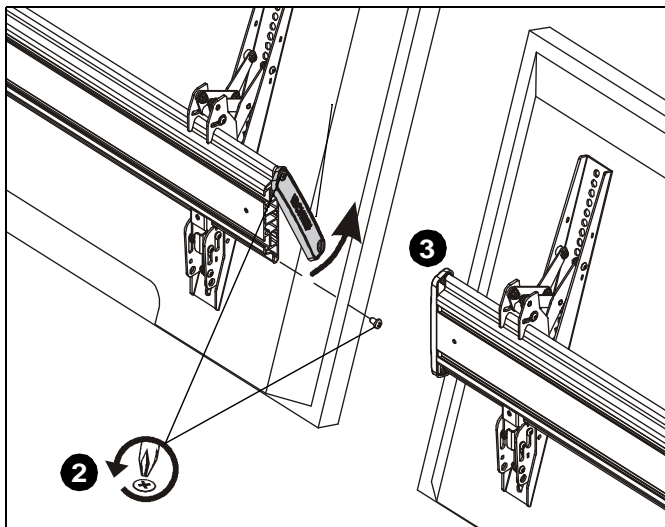

Figure 1
2. Rotate end cap on one end of rail by loosening one screw and removing one screw holding end cap to rail. (See Figure 1)
3. Repeat Step 2 for end of adjacent rail. (See Figure 1)